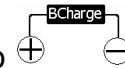

Figure- 57. Charge Battery
3. Plug the Red/ Black banana terminal of DC adapter into terminals on the meter respectively, be sure the polarity. See the Figure-57: